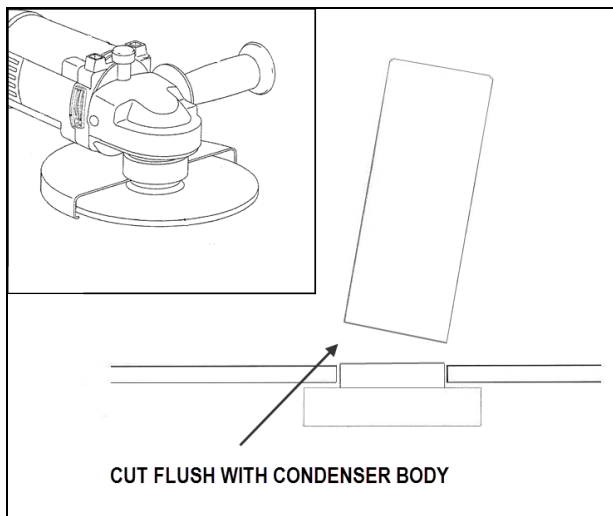

Fig.20
- **Pin weld broke but pin is still present and move/spin freely in the condenser top hole.** With an angle grinder and a suitable cutting disk, the pin body will need to be cut flush to the condenser body and then pushed down while enlarging the hole to 1 inch with a hole saw (Fig.20 & 21).